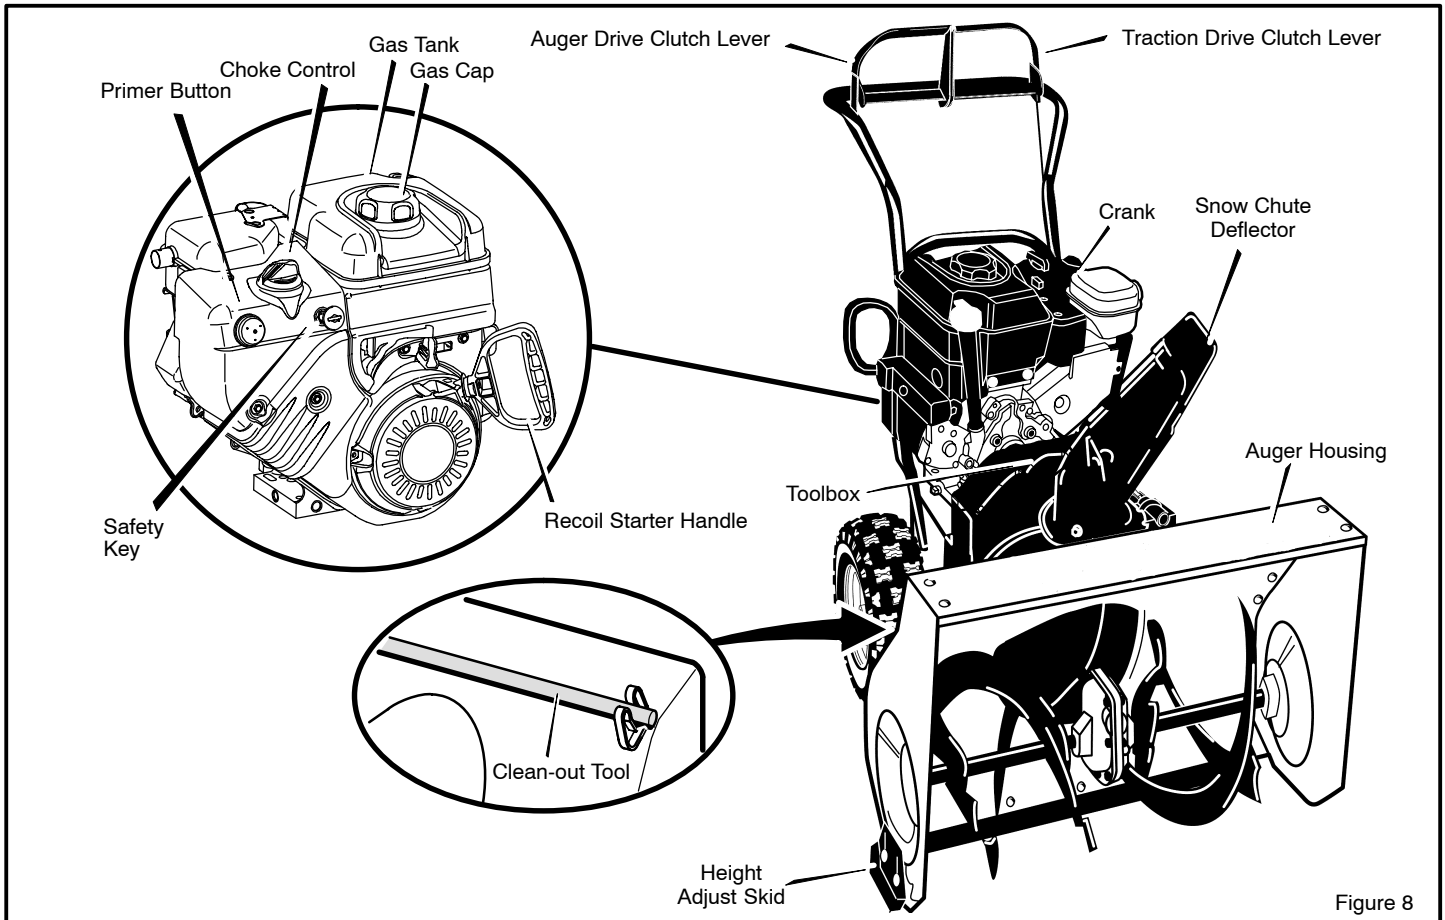

Figure 8
1. Rotate the **crank** to set the direction (left to right) of the discharge chute (see Figure 8).